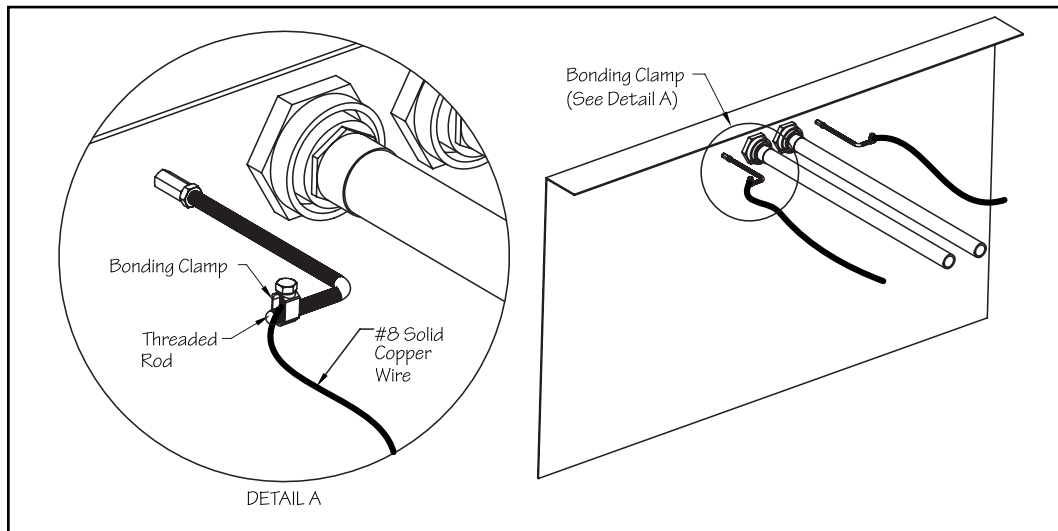

Fig. 4.11
**The threaded rods must be tied into the pools bonding grid.** If using rebar in the pools concrete collar, tie the threaded rods to the rebar using rebar wire. Secure a bonding clamp to each threaded rod. Attach a #8 solid copper wire to each bonding clamp. These wires **MUST** be attached to a bonding connection that's incorporated into the pools bonding grid. In most cases this connection will be at the pools existing equipment (heater, pump, etc.) that's presumably already tied into the bonding grid of the pool. Verify these connections are tight before pouring concrete (Fig 4.11)